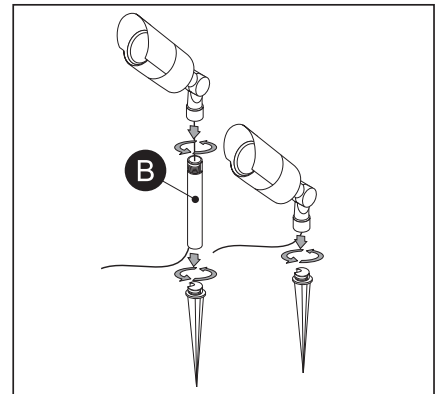

Fig. 1
1. The fixture can be used with or without the 5 in. downrod (B). Assemble parts as shown. Do not over tighten (Fig. 1).